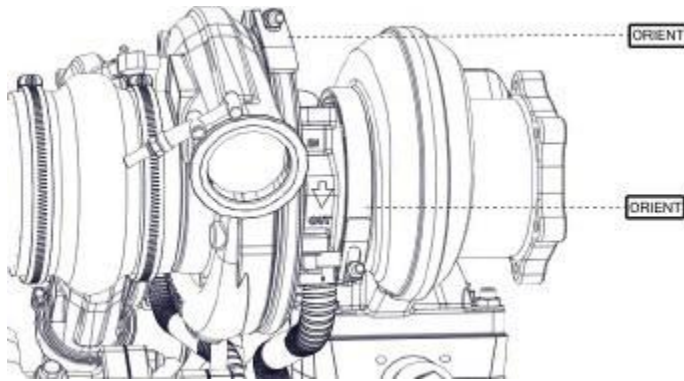

Figure 29. Compressor Housing Orientation
6. Orient all turbocharger compressor housings. (Refer to Figure 29)